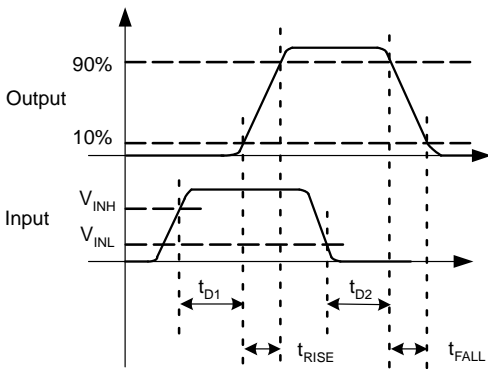
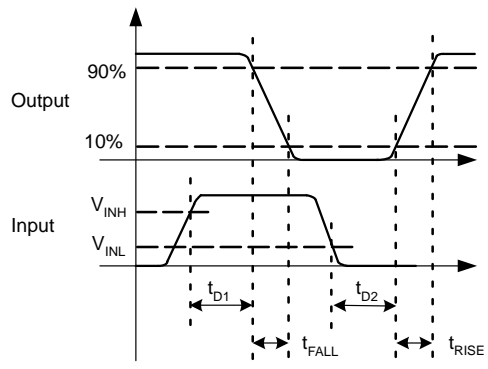
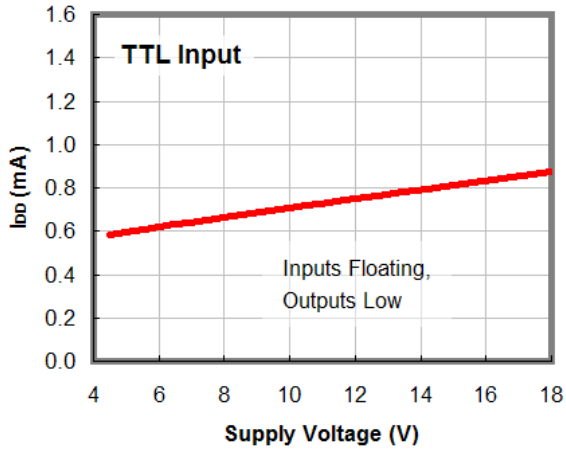
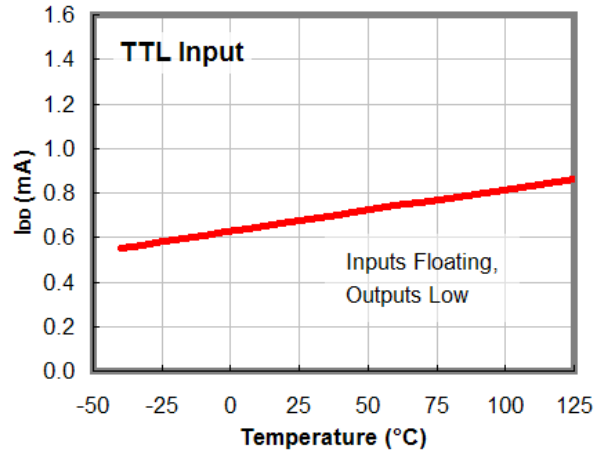

Figure 6. Non-Inverting Timing Diagram
Figure 7. Inverting Timing Diagram
Figure 8.  $I_{DD}$  (Static) vs. Supply Voltage (Note 11)
Figure 9.  $I_{DD}$  (Static) vs. Temperature (Note 11)
9. See Timing Diagrams of Figure 6 and Figure 7.
11. For any inverting inputs pulled low, non-inverting inputs pulled high, or outputs driven high, static  $I_{DD}$  increases by the current flowing through the corresponding pull-up/down resistor shown in Figure 6 and Figure 7.
In the  $I_{DD}$  (static) typical performance characteristics shown in Figure 8 and Figure 9, each curve is produced with both inputs floating and both outputs LOW to indicate the lowest static  $I_{DD}$  current. For other states, additional current flows through the 100 k $\Omega$  resistors on the inputs and outputs shown in the block diagram of each part (see Figure 6 and Figure 7). In these cases, the actual static  $I_{DD}$  current is the value obtained from the curves plus this additional current.